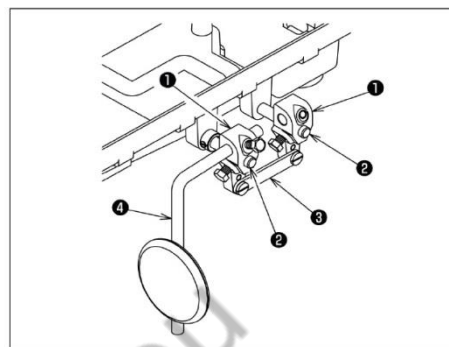

Fig.1
Fully draw out the knee lifter shafts (2) towards you. Then install it on the sewing machine. Attach driving arm (1) to respective shafts (2). Connect right and left driving arms (1) together with link (3). Install knee lifter lever (4) to driving arm (1) on the left side. See fig.1